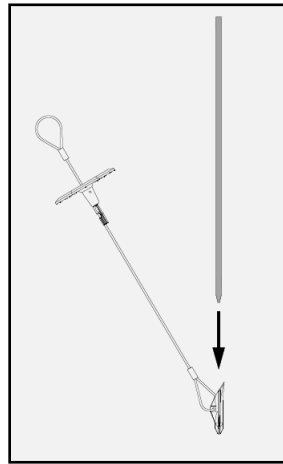
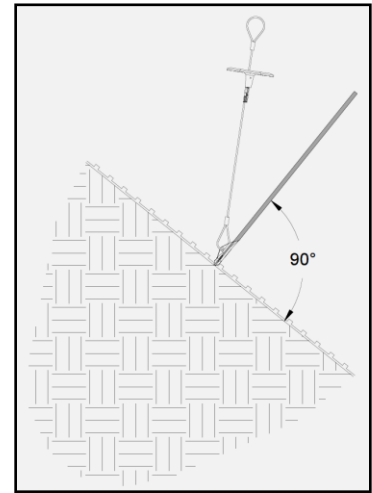

Figure 5: Insert Drive Steel into Anchor
Figure 6: Position Anchor Head / Drive Steel Tip
1. Insert the tapered end of the drive steel into the hollow cavity of the anchor head. Position the anchor head/ drive steel tip above the ground at the drive location, being careful to lay the cable tendon and load bearing plate (plate) off to the side. (Figure 5 and Figure 6)